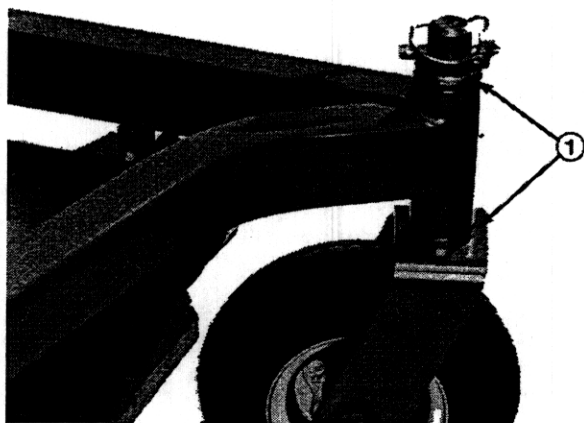

Figure 3
4. Insert a pin punch into the top or bottom of the mounting tube and drive the bushing out of the tube (Fig. 3). Also drive the other bushing out of the tube. Clean the inside of the tubes to remove dirt.